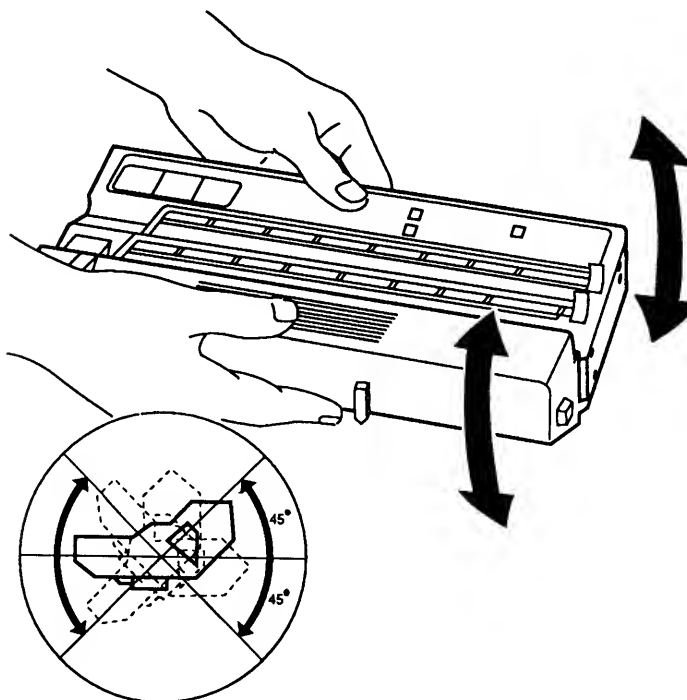

Figure 1-22 Distributing the Toner
- While installing a cartridge, hold the cartridge horizontal and slowly rock it about the axis of the drum 45 degrees five times in each direction (**Figure 1-22**). This movement will distribute the toner evenly. Don't stand the cartridge on end or turn it upside down. The caution label should always face up.